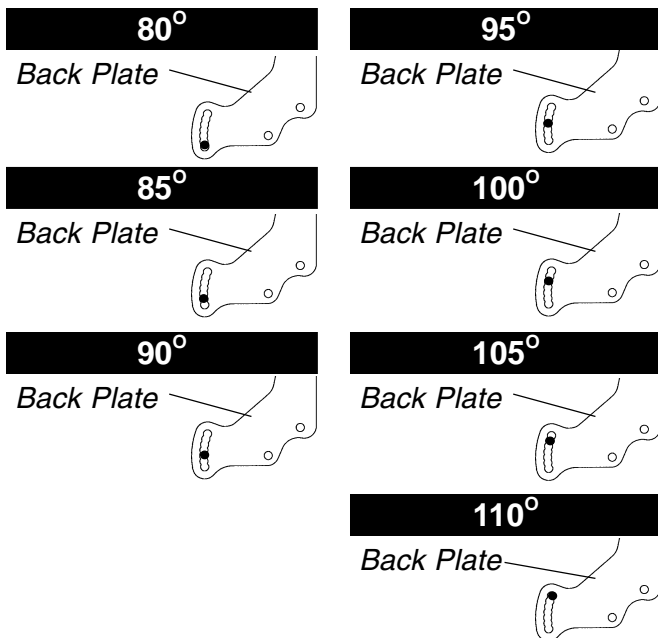

FIGURE 16 - BACK ANGLE PLATE MOUNTING HOLES FOR CORRESPONDING BACK ANGLES
3. Refer to FIGURE 16 to determine the mounting hole in the back angle plates for the necessary back angle.